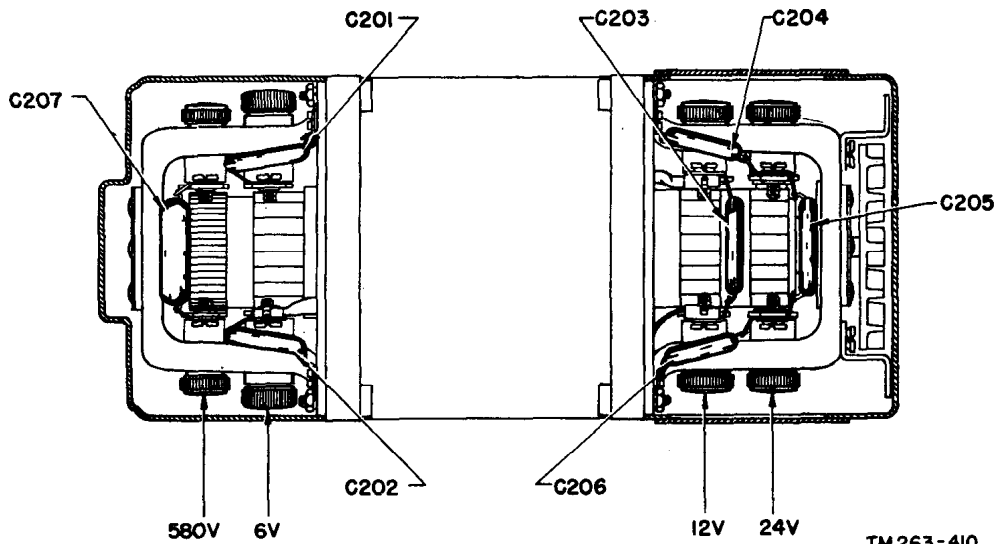

Figure 150. Dynamotor D201, parts location in some models.
*Note.* The commutator arrangement will vary according to the type of dynamotor used (figs. 150 and 151).